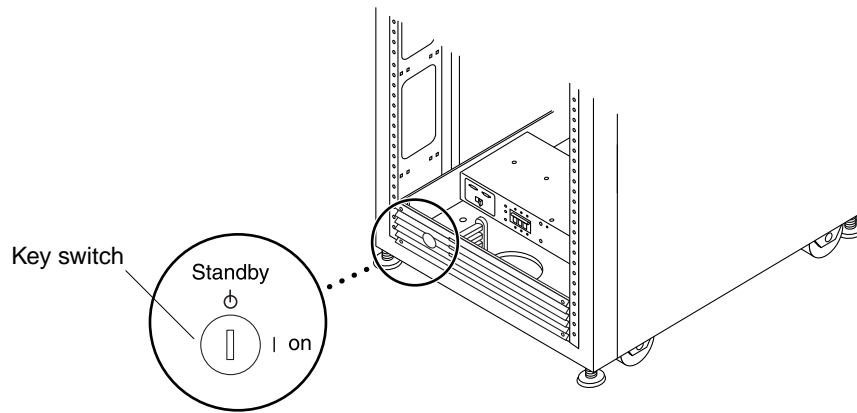

FIGURE 4-1 Location of Key Switch on Bottom Front Panel
1. Verify that the key switch located at the bottom front of the storage system is in the Standby position (FIGURE 4-1).
2. Turn the key switch located at the front of the storage system(s) to the Standby position (FIGURE 4-1).